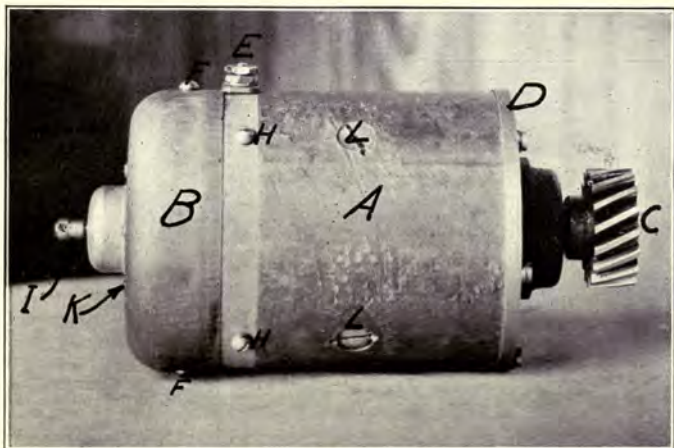
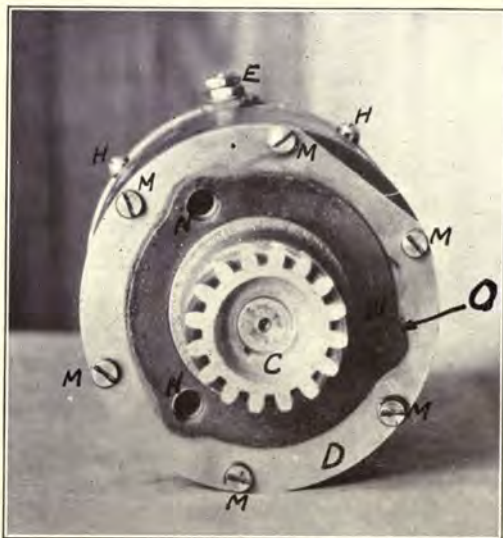

FIGURE 1.
FIGURE 4.
1. **THE GENERATOR**, Figure 1, which (a) charges the battery when the engine is running. (b) Furnishes the current used by the lamps when the engine is running at a speed of over 12 miles per hour. (c) May be used to furnish the current used by the ignition coils when the engine is running, although the regular Ford
LOCATION AND MOUNTING. The generator is located on the right side of the engine at the front end. See N. Figure 20. It is bolted to the cylinder front end cover, with three standard three-eighth inch cap screws with seven-sixteenth standard heads. A paper gasket (See O. Figure 4) is placed between the generator and the cylinder cover to prevent oil leaks.
DRIVE. Mounted on the front end of the generator shaft is a pinion having 16 teeth cut spirally. See C. Figure 1. This pinion engages with the large timer gear. The generator runs at one and one-half times the engine speed.
LUBRICATION. Both front and rear generator bearings are equipped with ball-bearings. The front ball-bearing is lubricated by oil splashing from the timer gear. At the rear end housing of the generator is an oil cup (Shown at I in Figure 1) through which oil may be squirted to lubricate the rear ball bearing. A few drops
FRAME. The main portion of the frame (Shown at A in Figure 1) is made of a wrought iron pipe, having an outside diameter of $4\frac{1}{2}$ inches, inside diameter of $3\text{--}\frac{31}{32}$ inches, and length of $4\text{--}\frac{7}{16}$ inches. Bolted to the inside of the frame are four steel pole-pieces over which the field
At the front end of the frame is a flat cast iron end cap (shown at D in Figures 1 and 4) which carries the front bearing, and which contains the holes shown at N in Figure 4, into which are turned the bolts which fasten the generator to the engine. This end cap is fastened to the generator frame by six screws (shown at M in Figure 4) which turn into the front end of the frame. These screws may be removed with a screw driver when it is desired to remove the end cap and armature. At the rear end of the generator is a removable U shaped housing, as shown in Figure 5. This carries the rear end bearing and the brush ring. It may be removed by taking out four screws, two of which are shown at H in Figure 1. As seen in Figure 5, there are four openings in this housing through which the commutator, brushes, and wiring may be examined. In removing this housing be careful not to crack the insulation (shown at F in Figure 3), which is placed around the generator terminal. Fitting over this housing is a sheet iron cover which closes up the four holes. This cover is shown at B in Figure 1. It is held in place by two screws, shown at F in Figure 1.
This is done by taking out two round head screws, as shown at F in Figure 1. The nut which holds in place the bolt which clamps the third brush holder to the brush ring is reached through the opening in the rear end housing, which is to the right of the generator terminal when facing the rear end of the generator. This is a hexagonal nut, and a small thin open end wrench is the best tool to use in turning this nut. Loosen this nut and
3. Take out the six flat head screws, shown at M in Figure 4. Then insert point of screwdriver between the front end cap and the frame and pry the cap loose. Then grasp the pinion and pull out the armature.